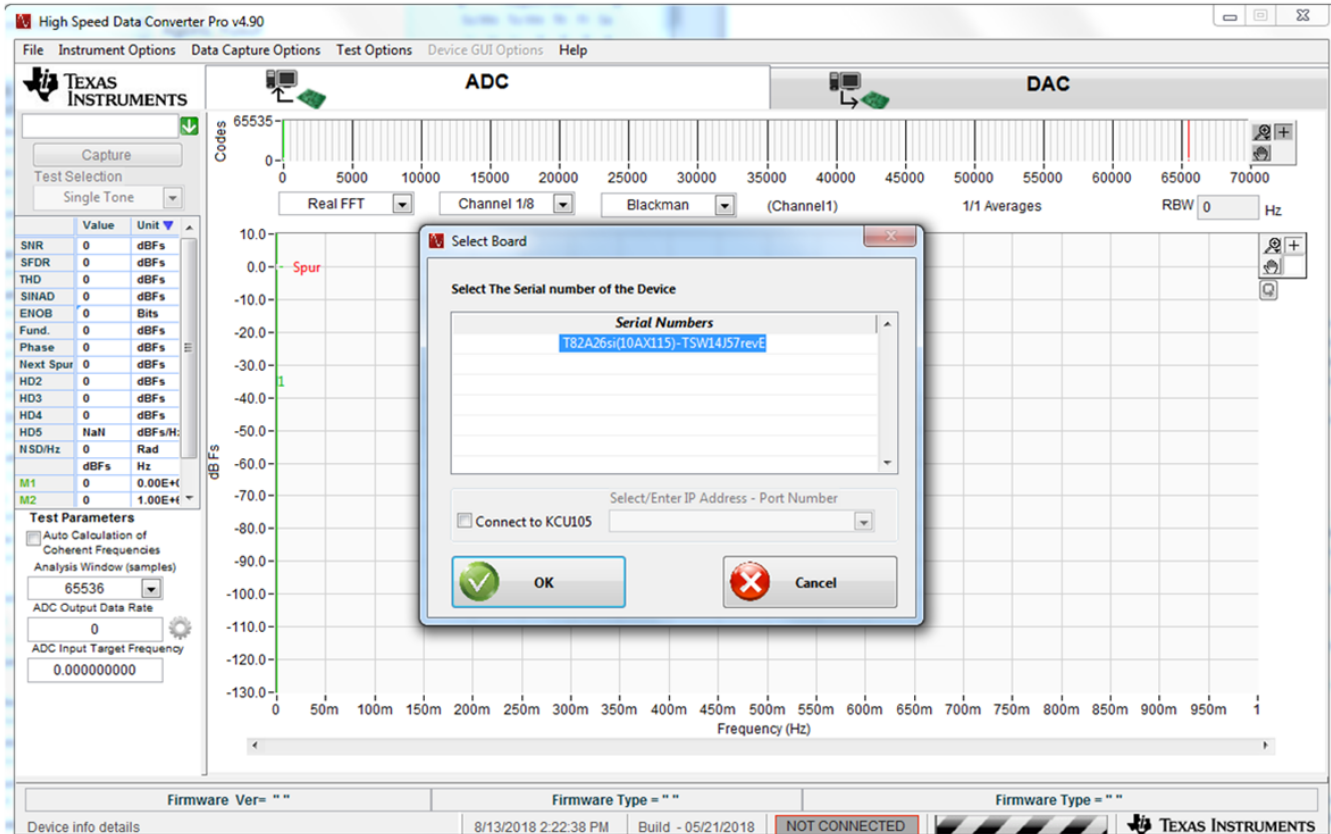

Figure 4. HSDC Pro GUI Connecting to the TSW14J57EVM
1. Open the HSDC Pro software. Your screen should look like Figure 4.